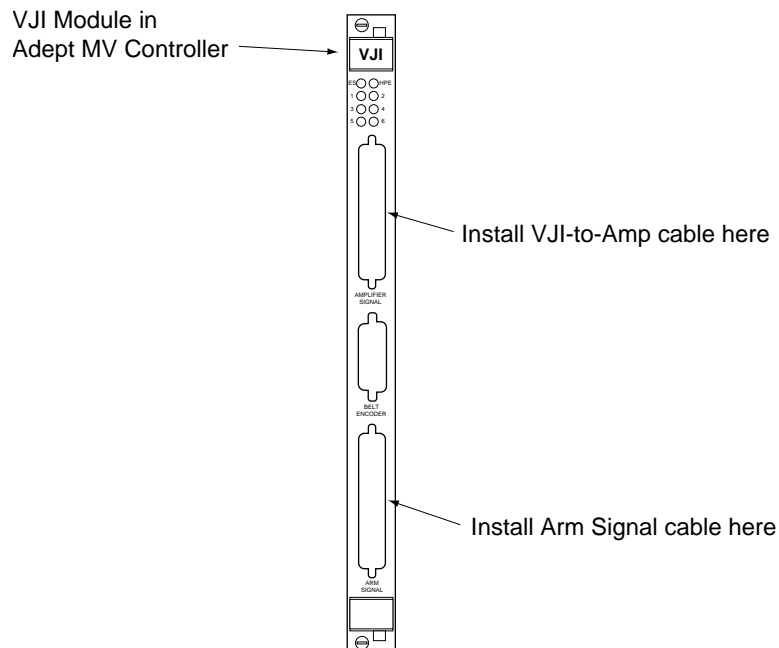

Figure 2-12. Robot-to-VJI Cable Installation
1. Connect the 50-pin D-sub connector to the Arm Signal connector (lower) on the VJI module. See Figure 2-12.